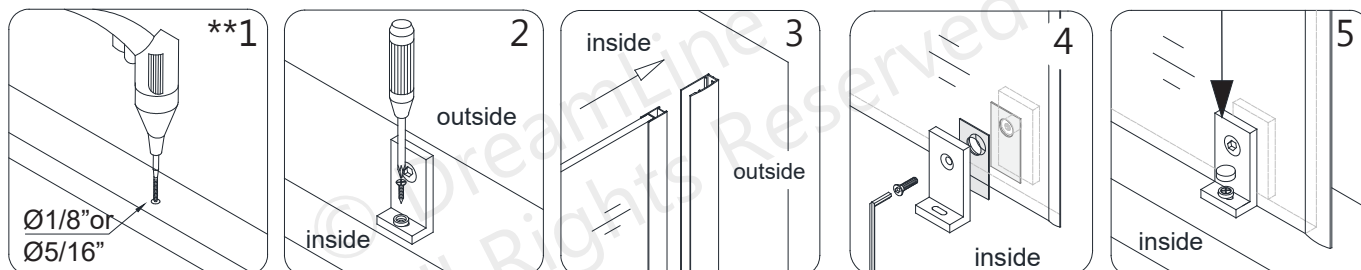
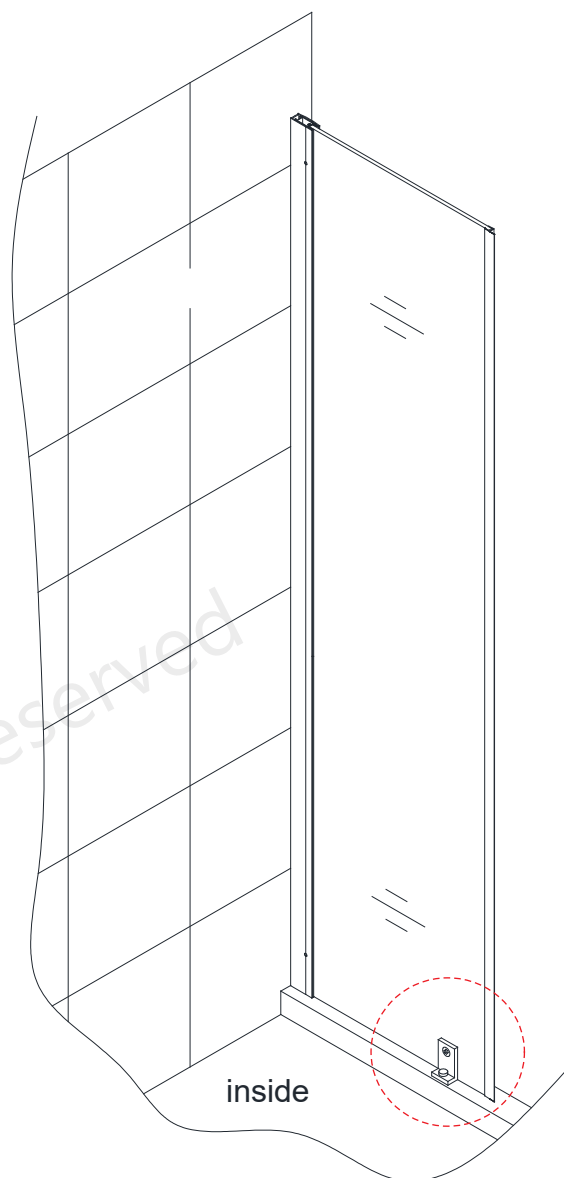

Fig 7a
Fig 7b
****** Use an **Ø1/8"** drill bit for installation into an acrylic base OR use a **Ø5/16"** drill bit and an anchor for installation into a tile threshold. Use the **Pan Head Screw ST4.2x35 (#16)** along with a raised white washer to attach the **Bottom Bracket (#18)** to the threshold and snap on the **Decorative Screw Cover (#17)**. (**Fig 7a** and **Fig 7b**)